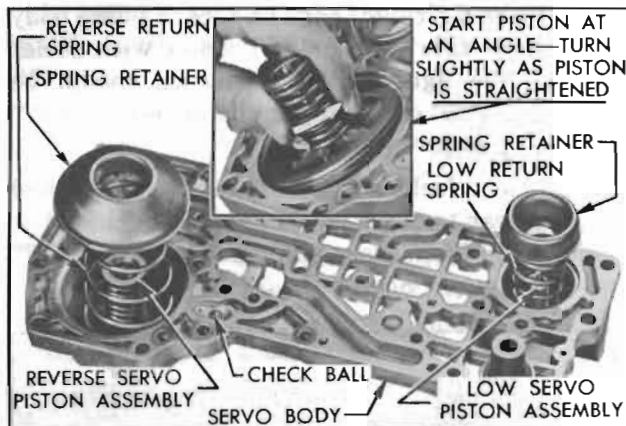

Figure 5-63—Parts Installed in Servo Body
4. Remove reverse and low servo piston spring seats, springs and pistons. Remove check ball from reverse servo feed channel. See figure 5-63.
1. Oil and install the low and reverse servo piston assemblies in servo body. To avoid curling or damaging edge of piston seal, start each piston into cylinder at an angle then turn piston slightly as it is straightened and pushed into cylinder. See figure 5-63. Check pistons for free movement in cylinders.
2. Install the small return spring with small end against the low servo piston. Install the large return spring with the large end against the reverse servo piston. Place spring seats on upper ends of both springs. See figure 5-63.
3. Place check ball in reverse servo feed channel. See figure 5-63.